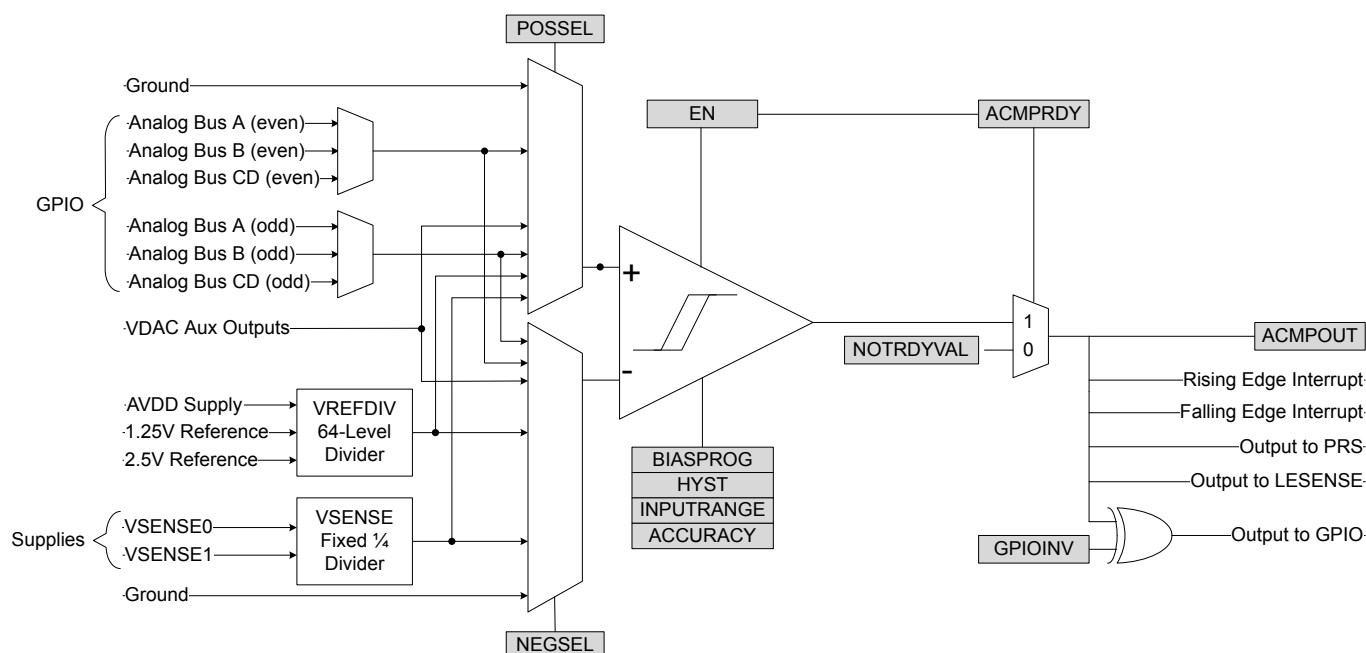

Figure 30.1. ACMP Overview
An overview of the ACMP is shown in Figure 30.1 ACMP Overview on page 1213.
The ACMP can be used to monitor supply voltages. This is done by selecting VSENSE01DIV4(LP) or VSENSE11DIV4(LP) for either POSSEL or NEGSEL. Note that the input to the comparator core will be divided by 4, as illustrated in Figure 30.1 ACMP Overview on page 1213. To reduce energy consumption, a sample/hold circuit can be used to periodically sample the power supplies. To enable this, select VSENSE01DIV4LP or VSENSE11DIV4LP in POSSEL / NEGSEL. Because the sample/hold feature uses the comparator in a non-continuous fashion, enabling this will increase response times and reduce the accuracy of the comparator. The connections between VSENSE0 and VSENSE1 to power supplies are summarized in the table below.